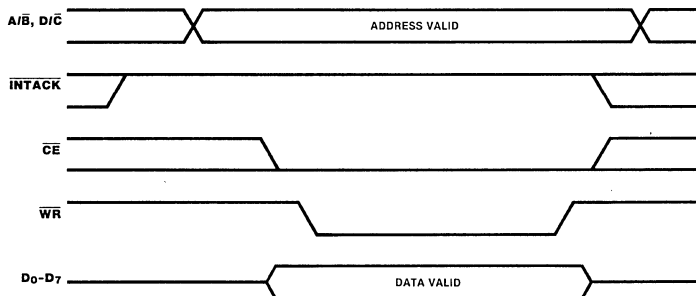

Figure 13. Write Cycle Timing
**Write Cycle Timing.** Figure 13 illustrates Write cycle timing. Addresses on  $A/\overline{B}$  and  $D/\overline{C}$  and the status on  $\overline{INTACK}$  must remain stable throughout the cycle. If  $\overline{CE}$  falls after  $\overline{WR}$  falls